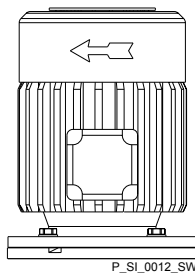

Fig. 18: Direction of rotation of motor
- When connecting the motor, pay attention to the correct direction of rotation indicated by the arrow on the fan cover, as shown in Fig. 18.